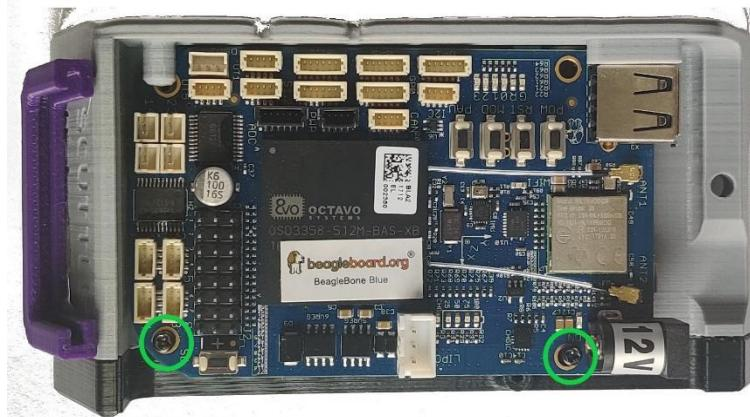

Figure 1
1. Your BeagleBone must be secured in the 3D printed bracket using the black M2 plastic screws as shown in Figure 1.